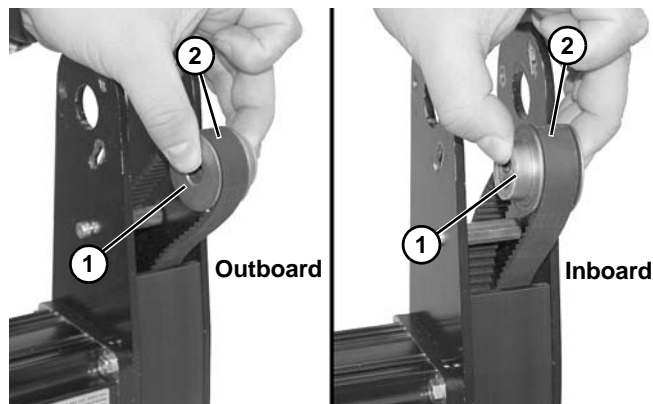

Figure 5
Make certain flat surface of driven pulley is facing away from conveyor as shown in (Figure 5).
6. Insert driven pulley (Figure 5, item 1) into timing belt (Figure 5, item 2) as shown.